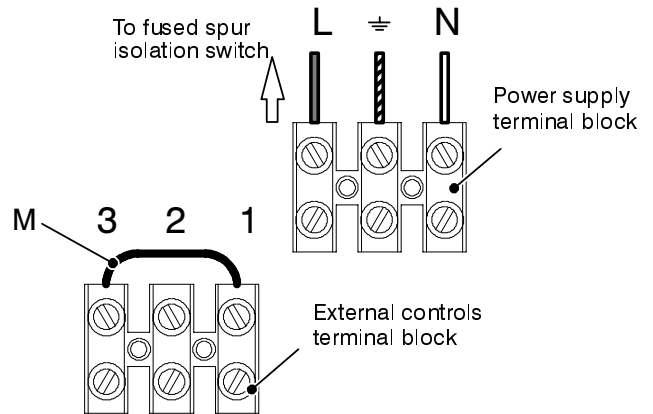

Fig. 6.15
- 6 Connect the electrical supply flexible cord coming from the fused spur isolation switch to the power supply terminal block of the boiler (Fig. 6.15) keeping the same connections for the live (brown wire) and the neutral (blue wire). External 3 A fuse or fused plug with same current rating is recommended.
When connecting any type of external control, the link M in Fig. 6.15 must be removed.